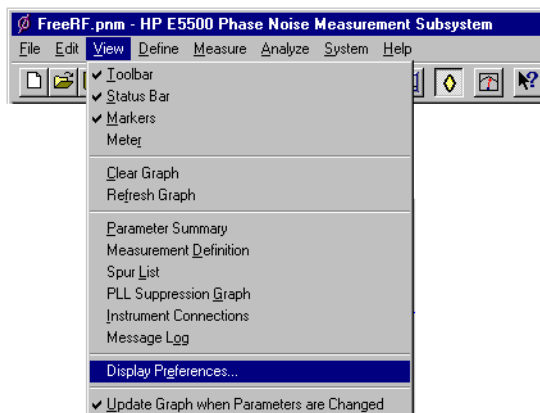

Figure 15-7 Select Display Preferences
- 1 On the **View** menu, click **Display Preferences**. See Figure 15-7.